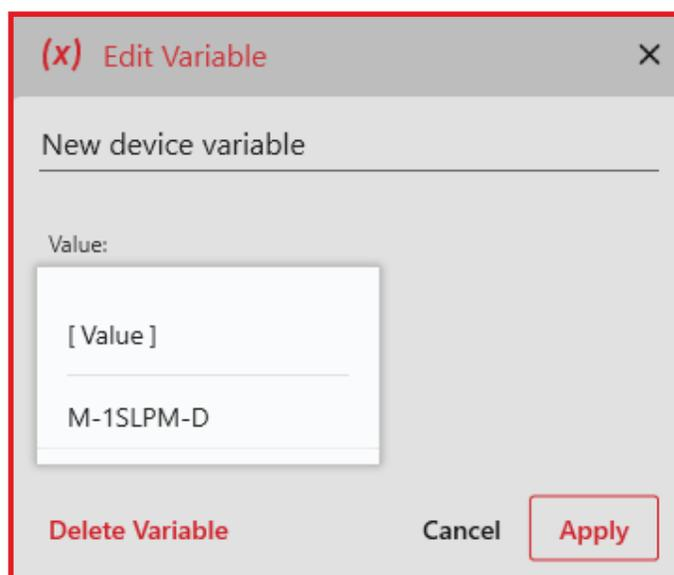

Figure 27. Edit variable window.
See figure 27
2. Define a name for the new variable and then select either **Conditional Variable**, **Numerical Variable**, or **Device Variable** from the **Variable Type** dropdown menu. Click **Add**. The **Edit Variable** window opens and you can define a value for the device (figure 27).